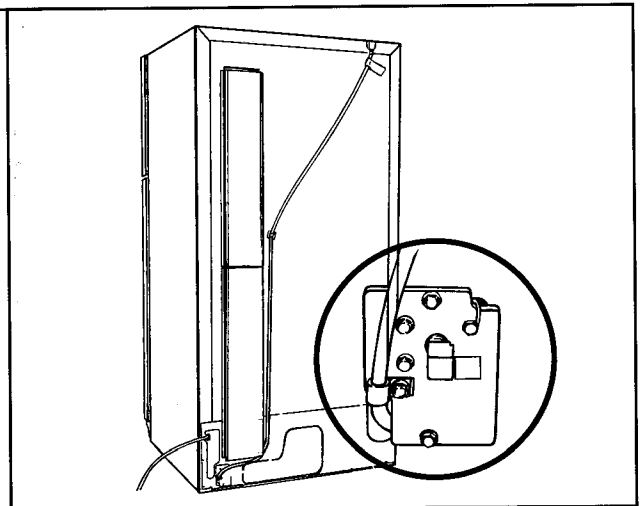

Figure 29
3. Remove only the plastic cap from the water valve fitting from the back of the refrigerator. See Figure 29.